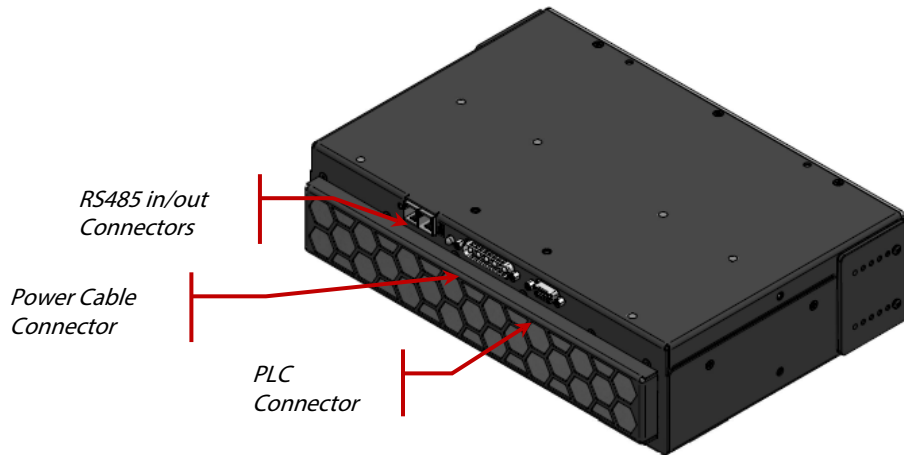

Figure 1 UV LED Head Connection Ports
3. Attach the male end of the power cable to the power supply unit, and connect the female end of the power cable to the UV LED Head per Figure 1 - AC8300 shown.
6. Attach the male end of the PLC cable to the UV LED Head (see Figure 1).